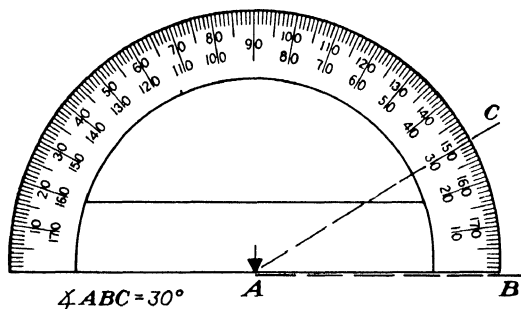

Fig. 104.
a. Place the protractor as if measuring an angle whose vertex is at A (see Fig. 104).